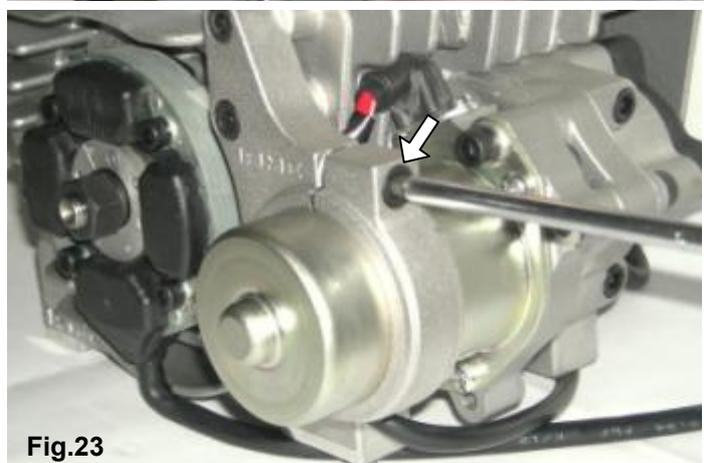

Fig.23
- PLACE THE STARTER IN SEAT (see Fig.23). OIL O-RING TO MAKE EASIER INSTALLATION N°3 SCREWS TCH M6x35 TORQUE AT A $8 \div 10$ Nm ($70 \div 90$ in-lb)
- INSTALL THE ADDITIONAL SUPPORT (N°3 SCREWS M6x25) AND TORQUE THE SCREW M6x30 ON THE SUPPORT (see Fig.23).